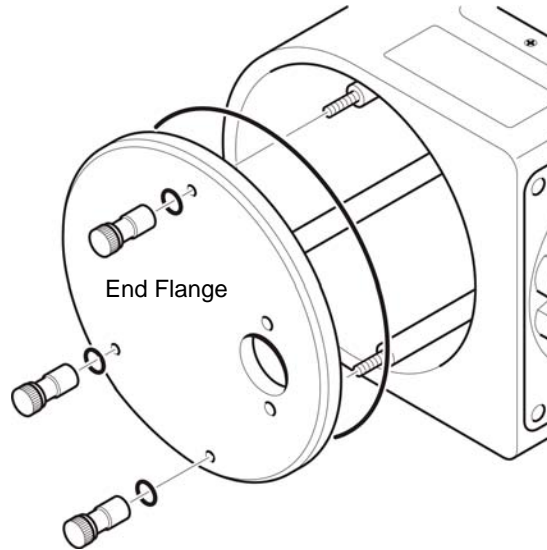

Figure 7-4 Attaching the Housing End Flange
3. Place the housing end-flange on the mounting pillars and tighten down fully, using the nuts with retained O-rings (Figure 7-4).